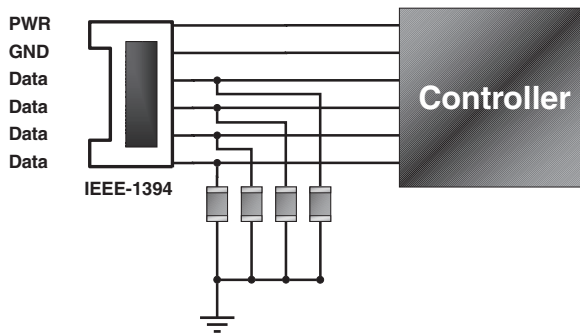

**Figure 1. The ESD Protection of 10 / 100 Ethernet (RJ-45) device with a PolySurg™ ESD Suppressor**
**Ethernet ports:** The RJ-45 is the most common Ethernet connection. The typical 10Base-T/100Base-TX uses 4 out of 8 lines. Each line in use can be protected with one PolySurg™ ESD Suppressor installed between the data line and the ground. For the best performance, place the devices at the closest location to the RJ-45 port (See Figure 1)